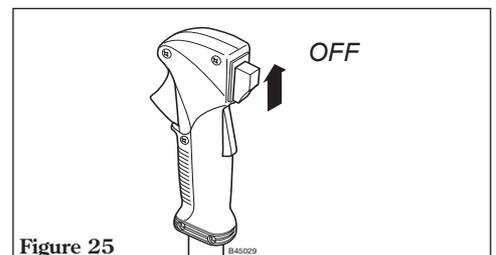

Figure 25
2. Slide the ignition switch button to the STOP position. See Figure 25.